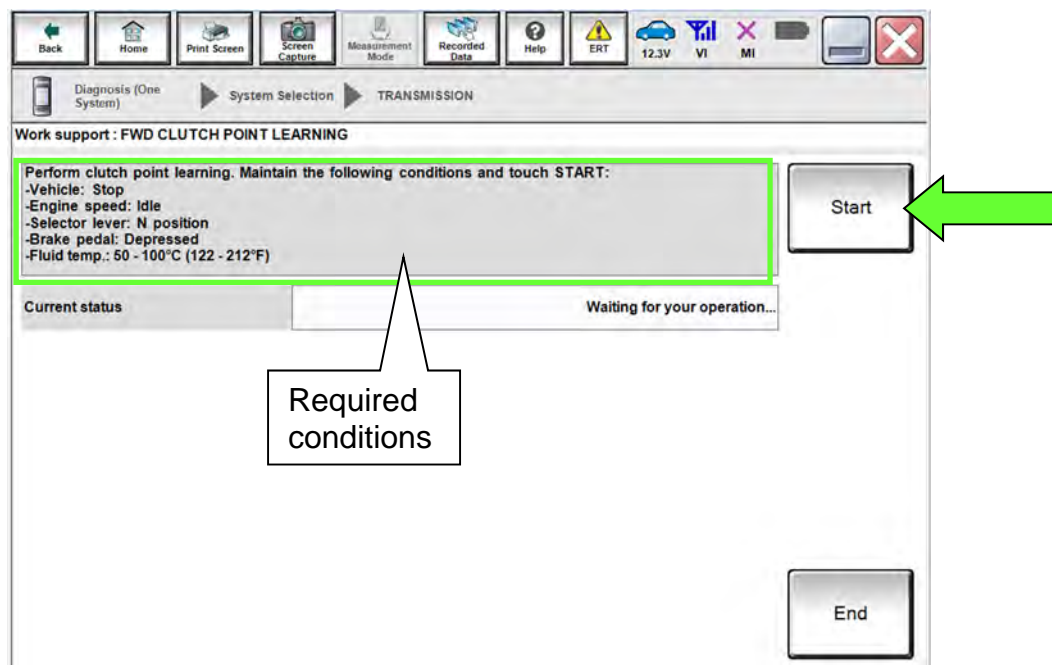

Figure 206
- Confirm that all of the conditions indicated in Figure 206 are being met.
196. While maintaining all conditions shown in Figure 206 and the Current status indicates EXECUTING, shift the CVT into **R** and then wait until the Current status indicates COMPLETED.